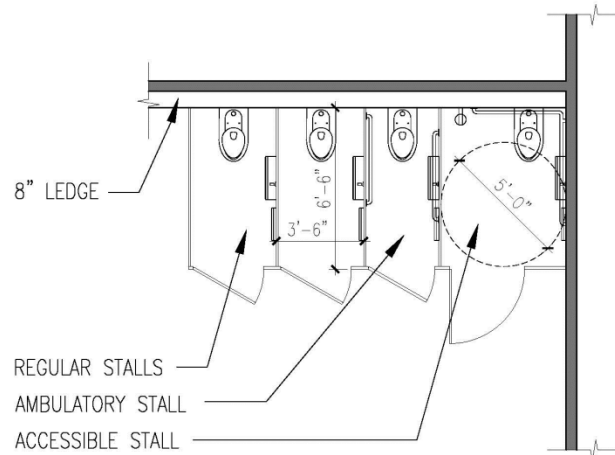

Figure 1.08B
- B. Typical toilet stalls in new construction and in new restroom layouts in existing structures where space permits will be 3'-6" x 6'-6" as shown in *Figure 1.08B*.